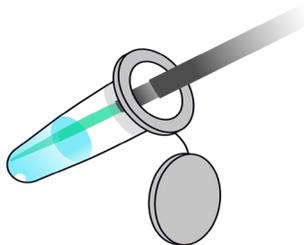

Figure 12. Example of pipette placement for supernatant removal from around the bead pellet.
23. Carefully remove and discard the supernatant without disturbing the bead pellet as shown in Figure 12.